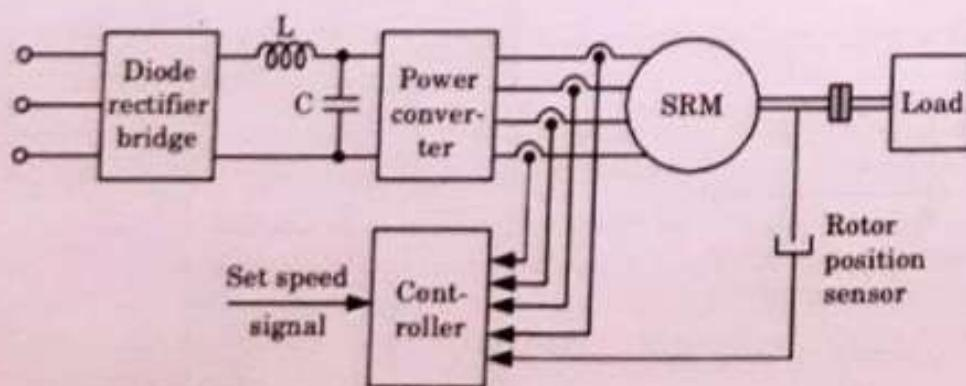

Fig. 3.3.2. Block diagram for 4 ϕ SRM drive system.
2. In order to keep the current rise within acceptable rating of the motor and the inverter components, a current limiting device is incorporated before SRM as shown in Fig. 3.3.2.
4. This current sensor then controls alternately the ON and OFF instants of power-converter components in order to hold the current as a function of rotor position θ is shown in Fig. 3.3.2.